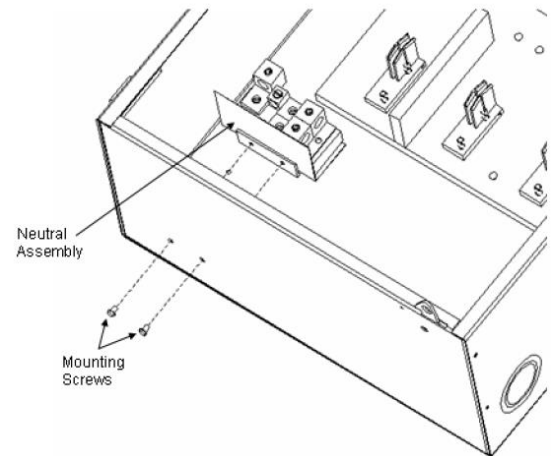

Figure 1.
1. Tighten item 2 (Mounting screws) in to mounting hole in the enclosure. Ref. Fig 1.